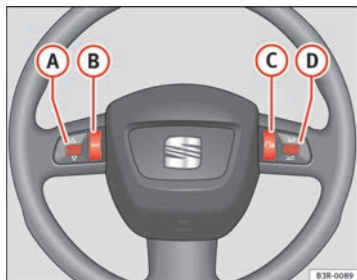

Fig. 64 Controls on the multi-function steering wheel
The functions are operated by pressing or scrolling the controls (A) to (D) on the multi-function steering wheel ⇒ fig. 64: